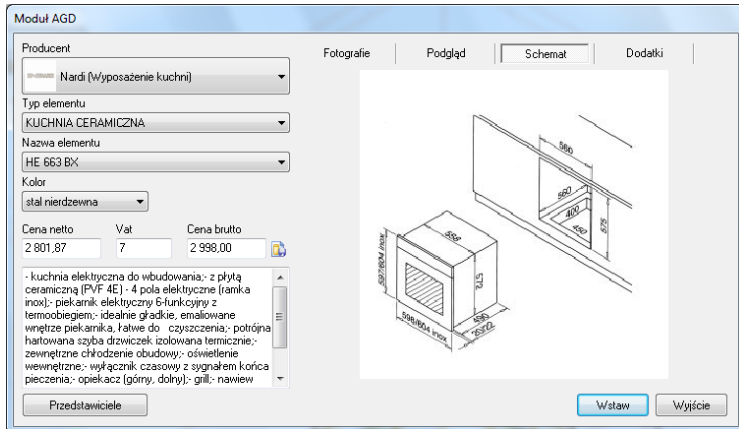

Fig. 247 – assembly diagram
- assembly diagram of the equipment (Fig. 247);